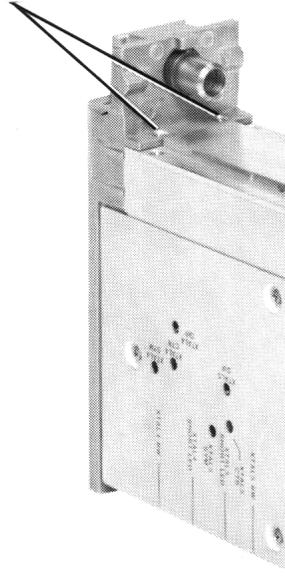

Figure 5-17. IF Front-Frame Removal
1. Remove the four module front-frame screws (two top, two bottom). See Figure 5-17.
6. Hold the front-frame assembly in place and secure the four frame-screws. See Figure 5-17.